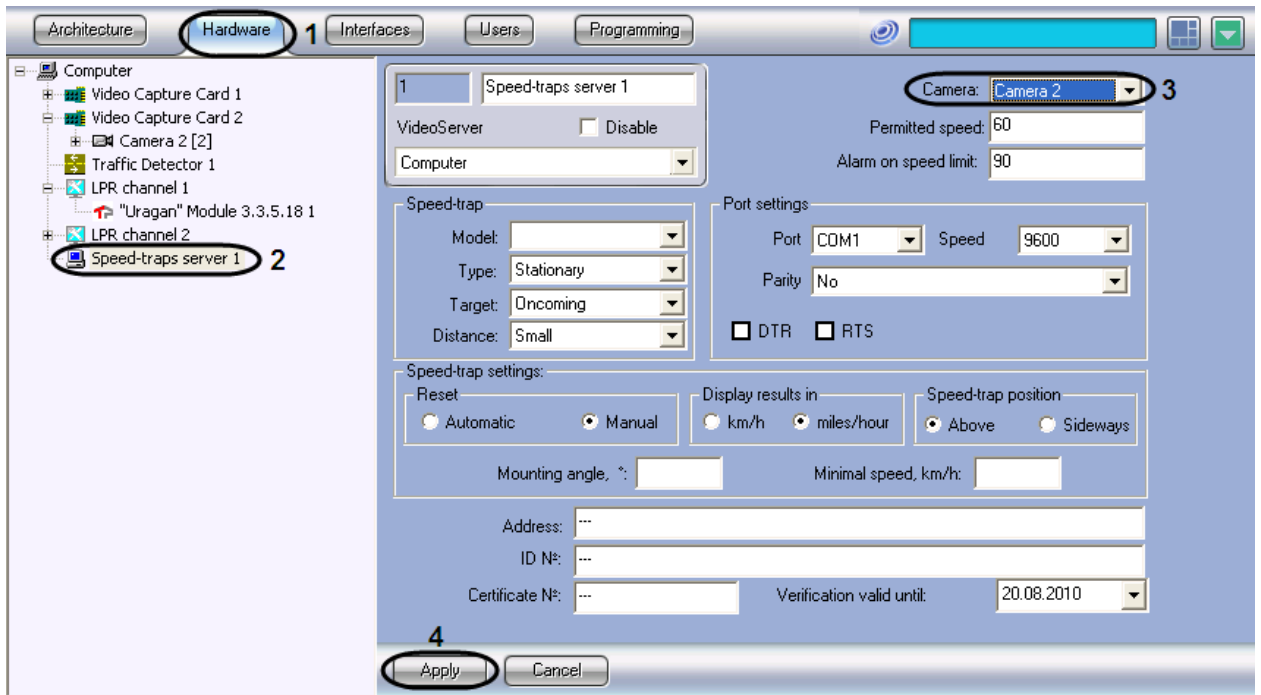

Fig. 7.3-2 The Speed-trap server object settings panel
2. In the object tree on the left side of the Hardware tab, select the Speed-trap server object representing the Radar module to be set up. The settings panel of the selected object will open on the right side of the window (see Fig. 7.3-2).